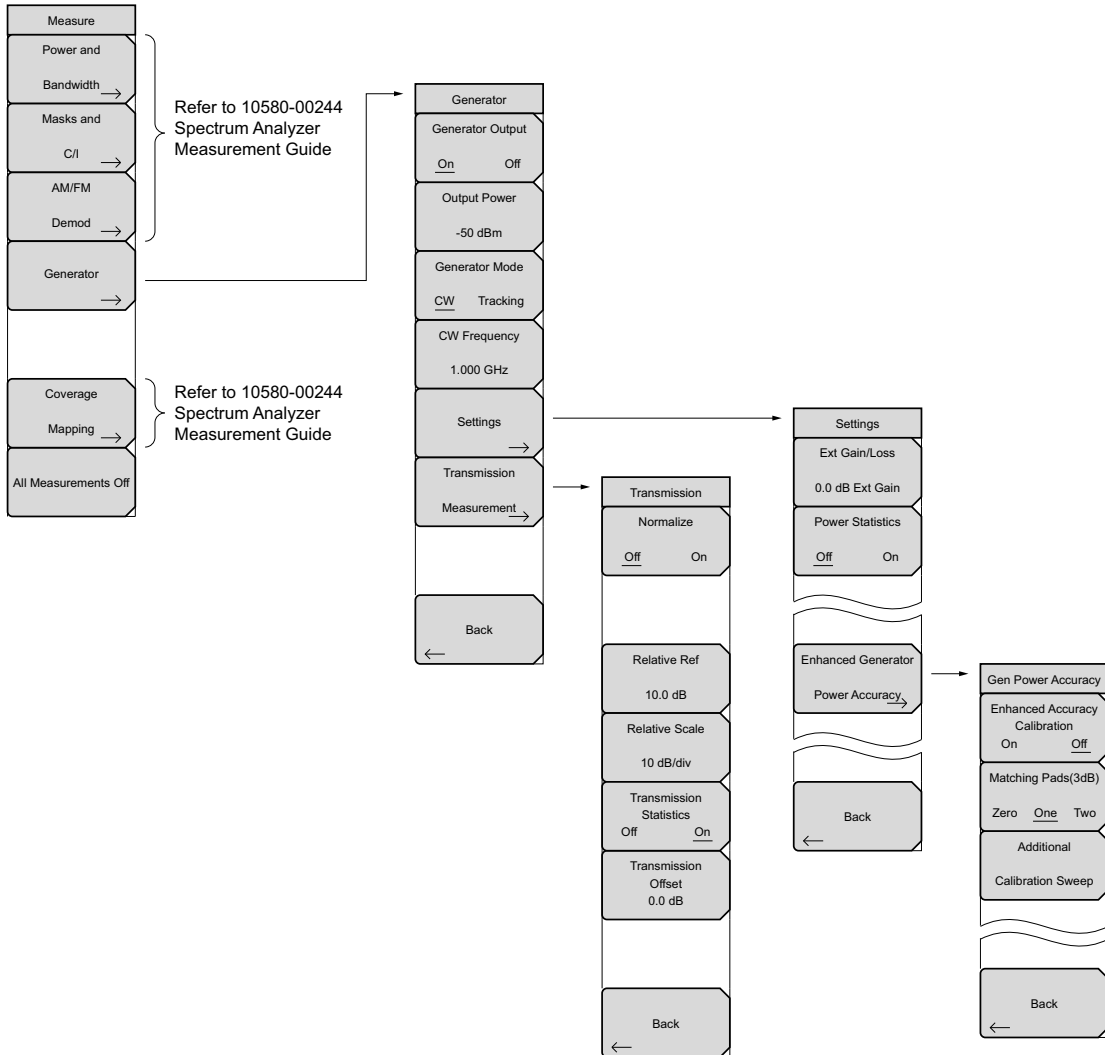

Figure 2-10. Measure Menu with Tracking Generator (Option 20)
To access the functions under the Measure menu, press the **Shift** key, then the **Measure** (4) key. The addition of Option 20 adds the Tracking Generator submenu key and subsequent menus, as shown Figure 2-10. Menu maps typically display all possible submenu keys, although some keys are displayed on the instrument only under special circumstances (refer to menu descriptions).